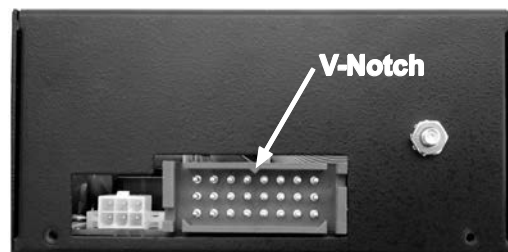

Figure 10 M-2001 V-Notch Orientation
2. Plug the blue connector of the M-2324C harness into the bottom of the M-2001 (Figure 10).